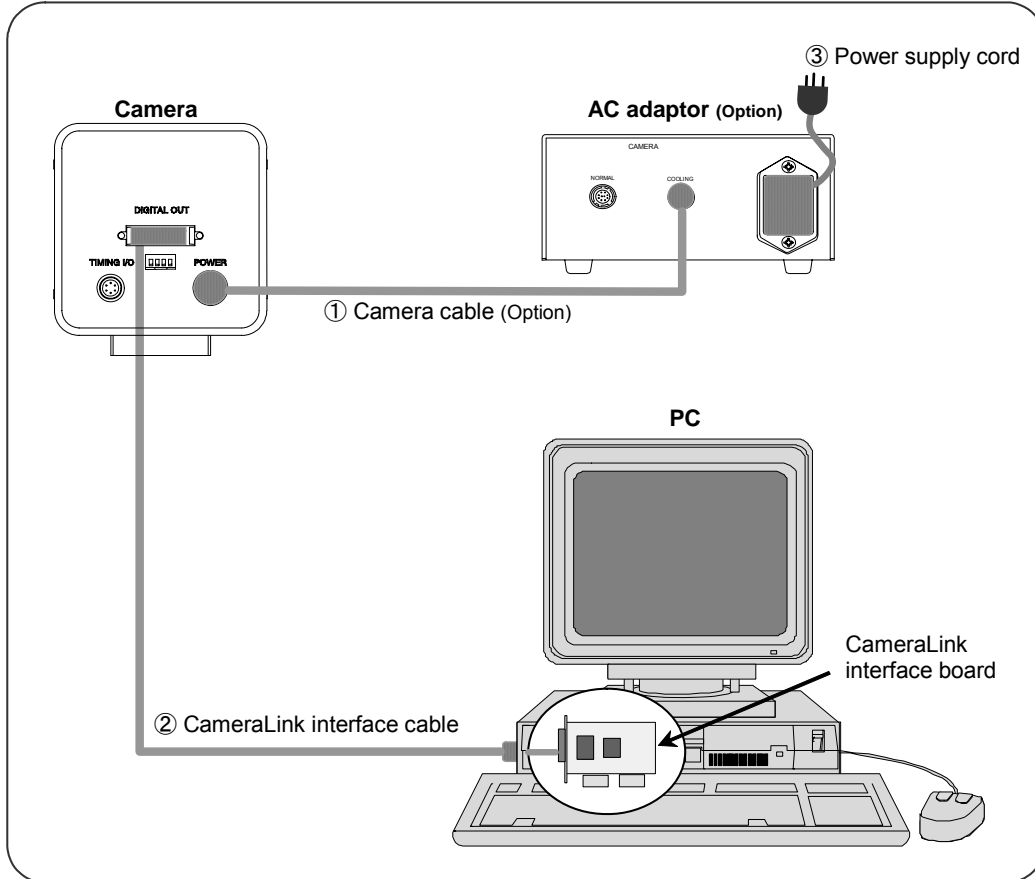

Fig. 7-1
- (1) Connect the equipment as shown in Fig.7-1 before starting operating of the camera.
- (2) Switch the camera's power switch to ON.